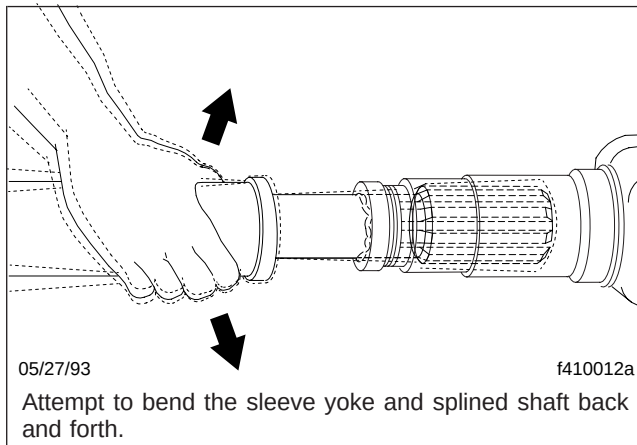

Fig. 2, Slip-Joint Spline Wear Checking
- Check the slip-joints for spline wear by trying to bend the sleeve-yoke and splined shaft back and forth (**Fig. 2**). If looseness is greater than 0.007 inch (0.18 mm), replace both the sleeve-yoke and the splined shaft.